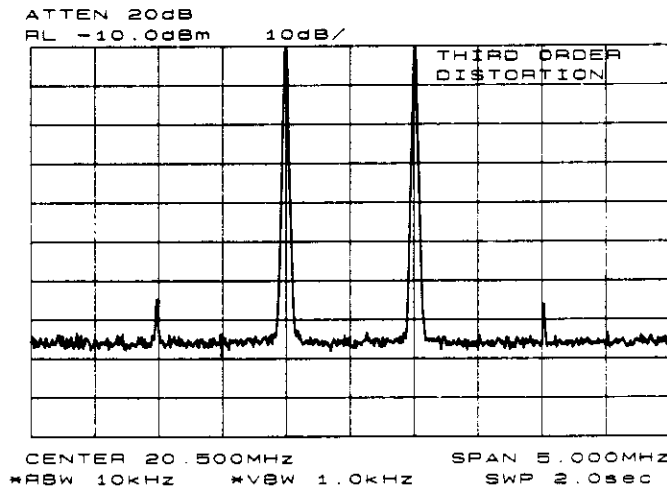

Figure 3-11. Display with title.
- You may want to store the measurement information for future use. The save and recall functions allow you to store data for later viewing. The screen title function allows you to create a title on the screen and a label for the recall menu. To create a title, press **DISPLAY** and then **SCREEN TITLE**. Next, use the softkeys from the screen-title menu and the knob (to choose the letters) to create a title. The title appears in the upper-right corner of the graticule and can be one or two rows of 16 characters each (see Figure 3-11). Press the softkey **TITLE DONE** when the title is complete.